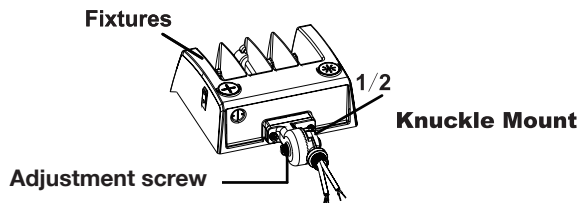
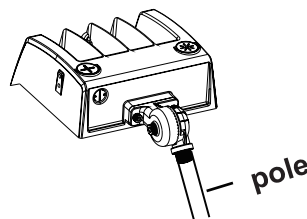

FIGURE 1.3
FIGURE 1.4
2. Finish the wire connection according to the right mode of connection (pay attention to load wire, neutral wire, and ground wire), (FIG 1.3) and then put wire into lamp pole (FIG 1.4)